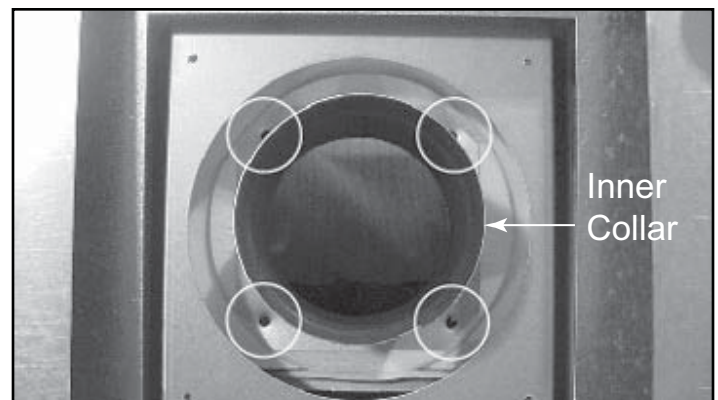

Figure 7.5 Remove Screws from Inner Collar
- Remove four screws holding the inner collar to the appliance top. See Figure 7.5. Remove the inner collar.